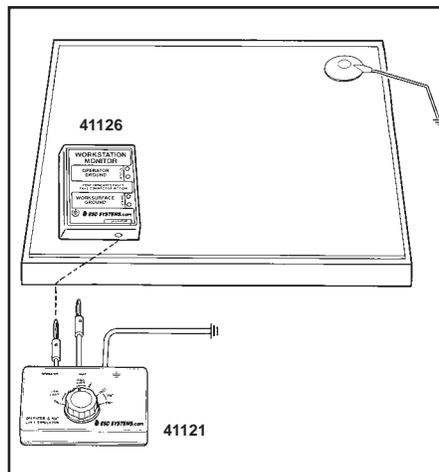

Figure 8. Connecting test lead from 41121 to 41126.
Step 2: Insert the calibration unit’s banana plug marked “Operator” into the jack marked “Operator” on the 41126 tester. See figure 8.